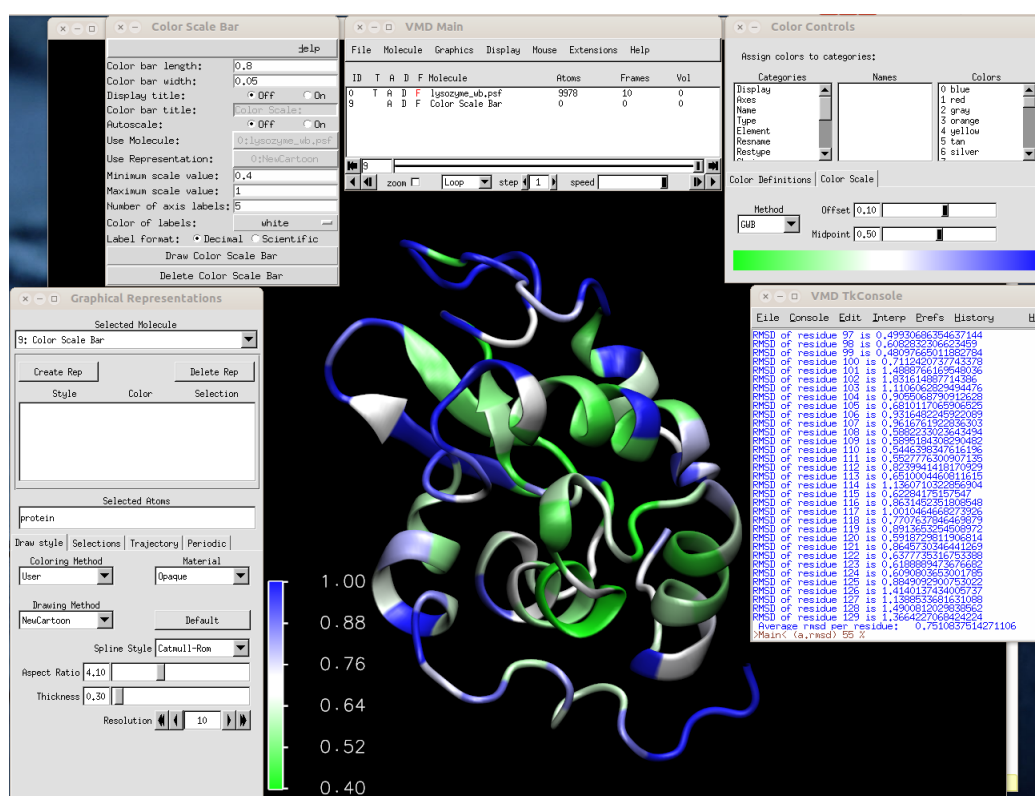

Figure 7: RMSD calculation with VMD.
10. Choose the Graphics → Colors menu item. Choose the Color Scale tab. In the Method pull-down menu, choose for example GWB (Figure 7).